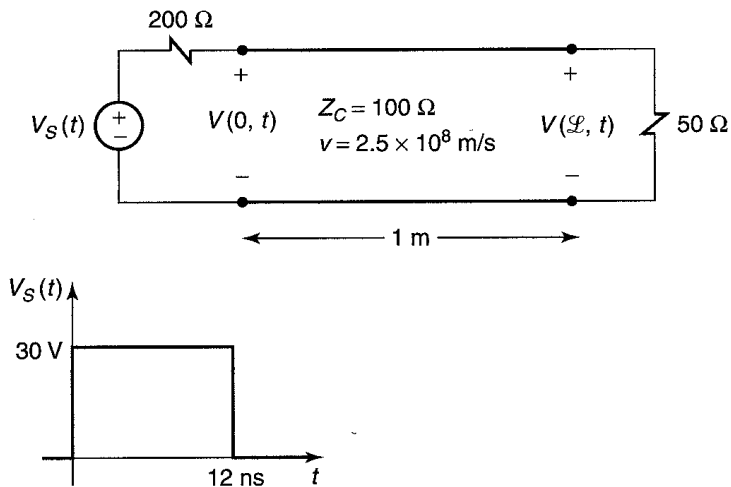

Figure P6.2.12 Problem 6.2.12.
6.2.12. Sketch the input voltage to the line, $V(0, t)$, and the load voltage, $V(\mathcal{L}, t)$, for the problem depicted in Fig. P6.2.12 for $0 < t < 32$ ns. What should these plots converge to in the steady state?